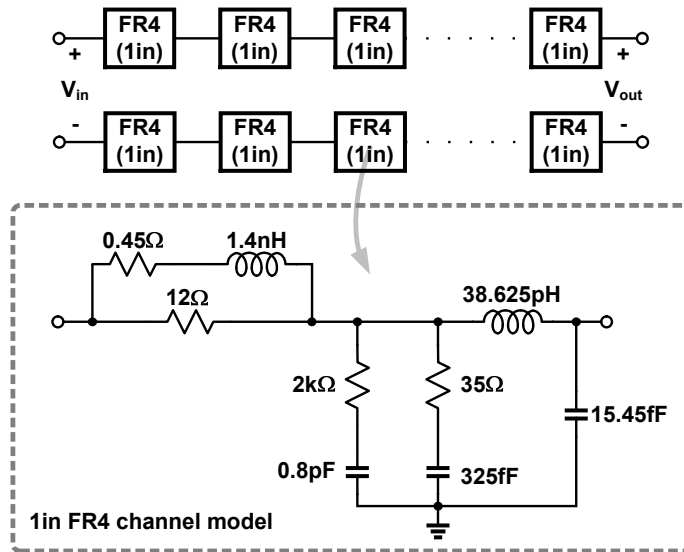

Figure 1: RLC model of a FR4 μ -stripline channel.
1. Model a differential 12 in FR4 μ -stripline channel with $50\ \Omega$ characteristic impedance, as shown in Fig. 1.